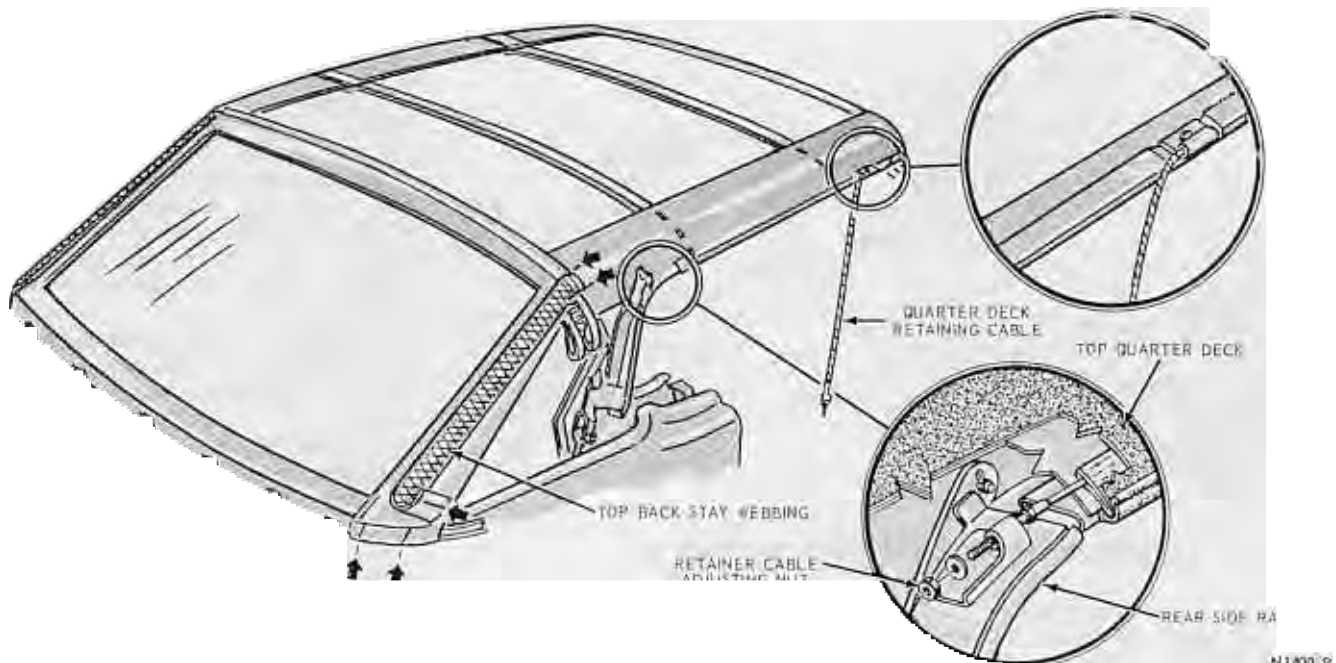

FIG. 14—Top Stay Pad Webbing and Quarter Deck Retainer Cable Attachments—Mustang
10. Disengage the top material hold-down cables from the rear side rail attachment and pull the cables forward until each is removed from the retaining sleeve (Fig. 14).
17. Detach the top material from the No. 4 bow. Peel the top material back to expose the No. 4 bow and mark the existing top back stay webbing location at the No. 4 bow and the tacking strip (Fig. 14).
8. Position each top back stay webbing on the belt center tacking strip and retain it with staples (Fig. 14).
12. Position the top back stay webbing on the No. 4 bow aligning marks and secure it with staples (Fig. 14).
18. Route the quarter deck retaining cables through the hold down sleeves in the top material and retain each cable at the rear (loosely) with the attaching nut and washer (Fig. 14).